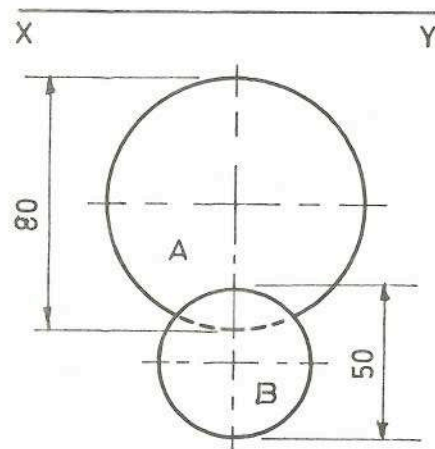

Fig. 3
3. Fig. 3 shows the plan of a cone A, altitude 75 mm and base diameter 80 mm, and a sphere B, diameter 50 mm, resting on the horizontal plane in contact with each other.